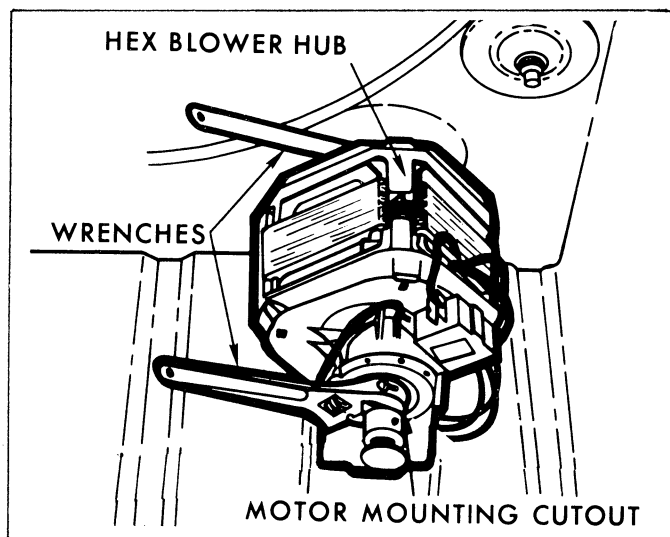

Figure 53
7. Remove fan assembly, *Figure 53*, using a wrench on flat of the motor shaft (pulley end) and another wrench on hex nut of fan hub. Note: Left hand thread.